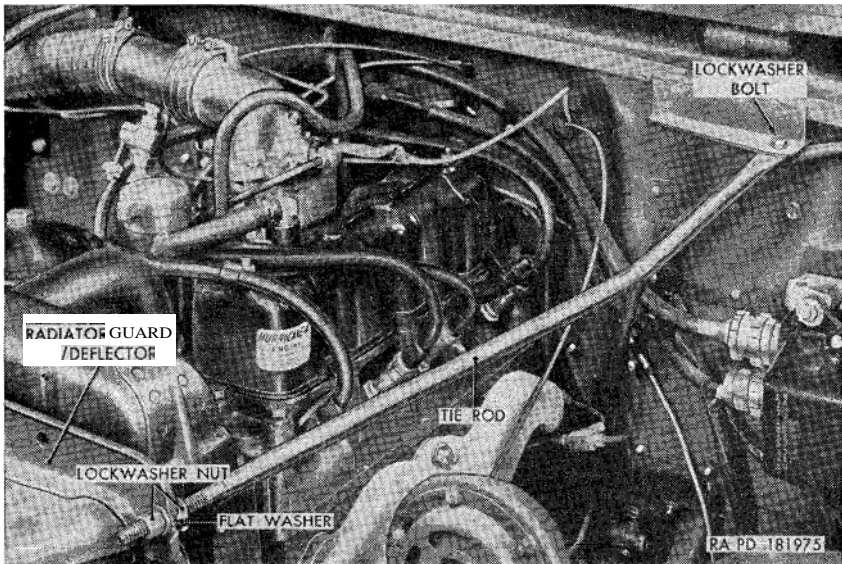

Figure 194. Dash-to-air deflector tie rod installed on left side of radiator guard.
(1) Proceed as directed in paragraph 257a (1) through (4).
(2) Loosen the outer lockwasher nut (fig. 194) on each of the two dash-to-air deflector tie rods sufficiently so that flat washers on the rod will clear the projections on the air deflector of the radiator guard with deflector. Pull the rods outward until they are clear of the deflector.
- (4) Pull the rubber washer from the bottom of the spacer installed in the bracket on the frame front cross member. Lift the other rubber washer with the spacer from the top of the bracket.
- (5) Remove the nut and lockwasher bolt (fig. 194) securing the rear of each tie rod to the bracket on the dash. Remove the two tie rods.
- (6) Proceed as directed in paragraph 257a(6) and (7).
- (4) Enter the two **lockwasher** screws on the bottom of the guard into the mounting slots in the fenders. Enter the four lockwasher screws in the fenders into the mounting slots of the guard. Tighten all six screws.
- (5) **Tighten the  $\frac{7}{16}$ -inch locknut installed on the bolt at the bottom of the guard.**
- (6) Secure guard to radiator by screwing two  $\frac{5}{32}$  x  $\frac{5}{8}$  bolts into the radiator-to-guard panel clips on each side of guard.
- (7) Position the flat end of each dash-to-air deflector tie rod on the bottom of the bracket on the dash. Secure each rod to bracket with one  $\frac{3}{16}$  x  $\frac{7}{8}$  lockwasher bolt (fig. 194) and  $\frac{5}{16}$ -inch nut.
- (8) Insert the front end of each rod between the projections on the deflector of the guard, making sure a flat washer is on each side of the projection. Tighten the outer  $\frac{3}{8}$ -inch lockwasher nut (fig. 194) on each rod to brace the guard.
- (9) Proceed as directed in paragraph 257b (5) and (6).